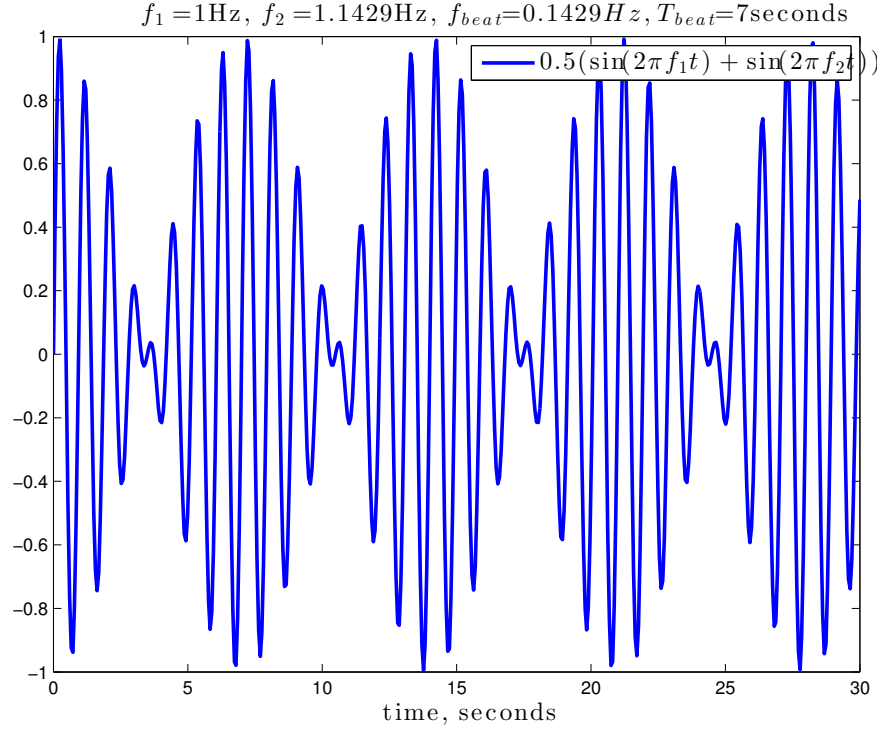

Figure 17: Beats with period 7 seconds.
- (c) For $T_{beat} = 7$ seconds, we need $f_{beat} = 1/T_{beat} = 0.1429$ Hz. With $f_1 = 1$ Hz, this implies that $f_2 = 1.1429$ Hz, as shown in Figure 17.